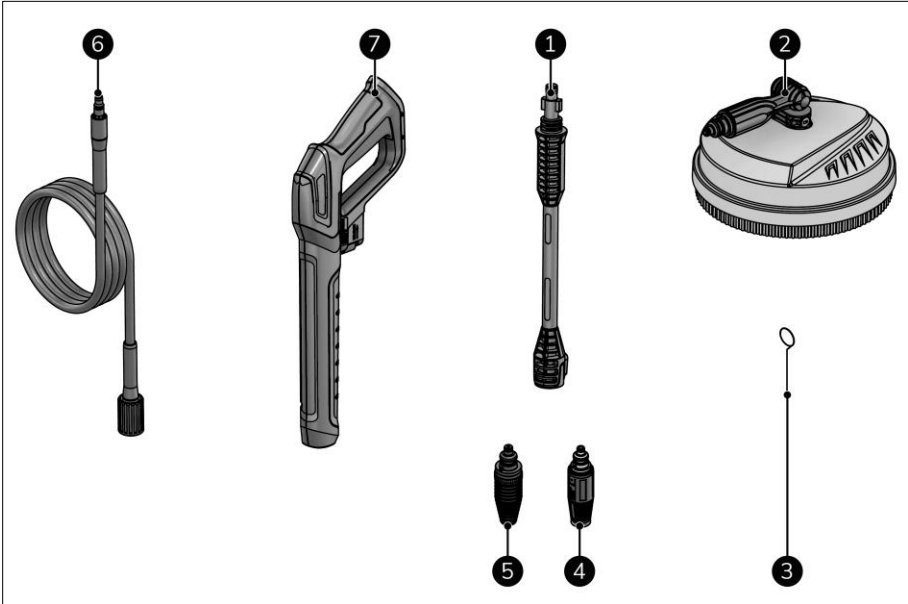

Figure 5
This device contains the following accessories (Figure 5):
1. Hold the jet gun (Figure 5, pos. 7) with both hands.
2. Place the floor cleaner (Figure 5, pos. 2) on the surface to be cleaned.